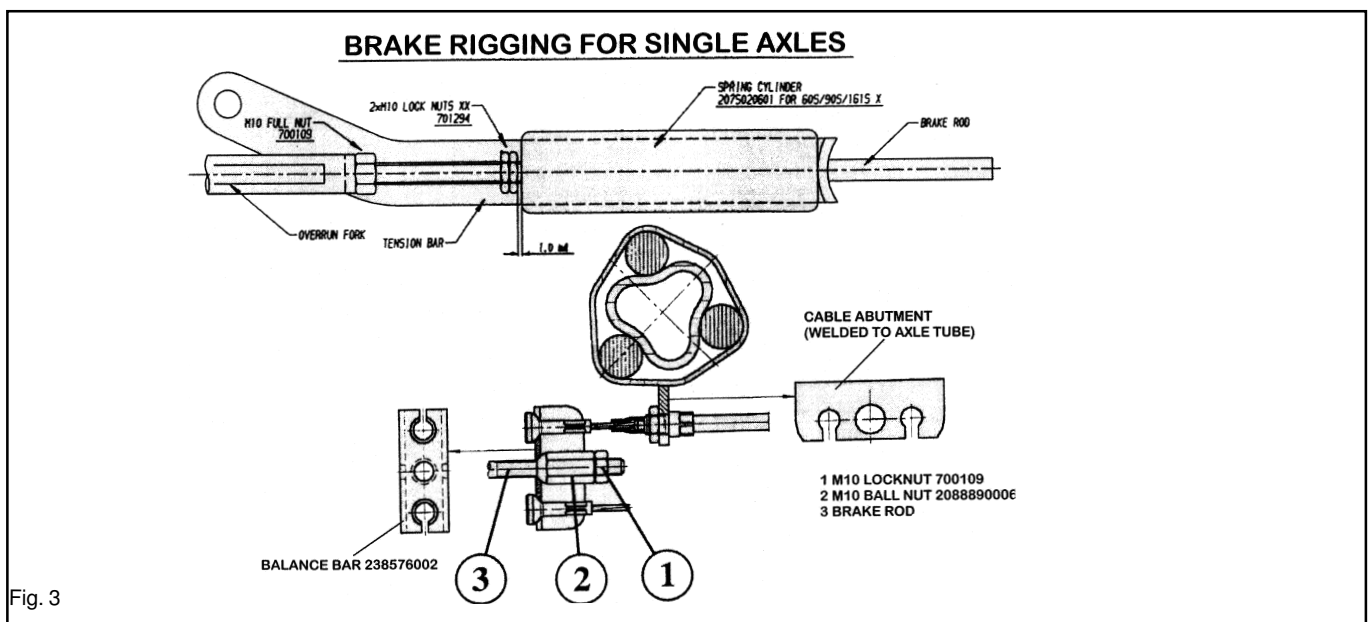

Fig. 3
7. Check the adjustment at the end of the brake cable where it is secured to the abutment (bracket), welded to the centre of the axle. When the inner cable is pulled out it should extend between 5 and 8 mm. (Fig. 3). (On tandem axles a double abutment (bracket) is fitted to the front axle ONLY).
10. Ensure the balance bar (compensator) is being pulled evenly (Figs.1 & 3). Excessive movement to this bar (double on tandem axles) would indicate possible incorrect adjustment (if appropriate, repeat step No. 7 - Fig. 3).
12. Remove the slack in the brake rod by adjusting the long ball nut, rear of the balance bar, ensuring the overrun lever makes contact with the end of the towing shaft. Note! Over adjustment to the long ball nut (Fig. 3/Item 2) could induce movement of the inner brake cable, reducing the effective clearance of the brake shoes. If the overrun lever will not make contact, it is possible the two lock nuts, forward of the spring cylinder, are incorrectly adjusted. Loosen the nuts and adjust brake rod as above (Figs. 1 & 3).
13. Adjust the two locking nuts, forward of the spring cylinder (Fig. 1), (on some chassis a single Nyloc nut is used) to give 1 mm of clearance on the spring cylinder. This cylinder (the energy store for the handbrake operation) must be able to rotate **ONLY**, not slide on the brake rod. (Fig. 3). (If the overrun assembly is fitted with a gas strut handbrake then no spring cylinder is fitted - therefore ignore this paragraph).